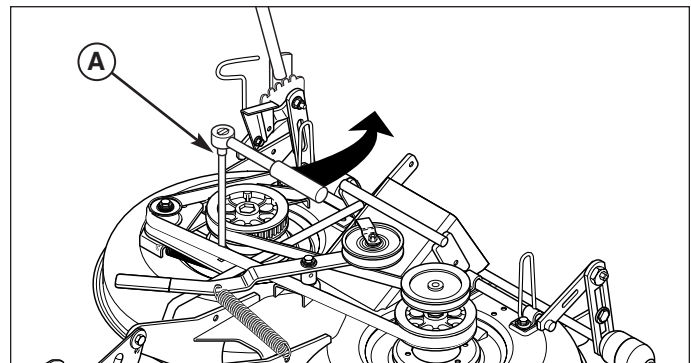

Figure 41. Release Belt Tension
4. Using a ratchet (A, Figure 41), move the idler assembly (H) to relieve tension on the belt (F).
5. Remove the belt (F).
6. Install a new belt (F) on the pulleys as shown. Releasing the idler assembly (H) allows the spring to automatically tension the cogged belt.
7. Tighten the idler assembly capscrew (G). Reinstall the belt covers.